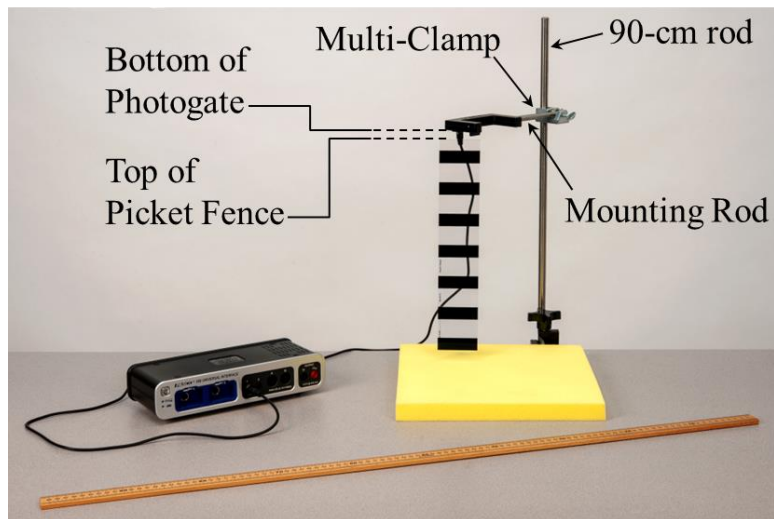

Figure 1: Picket Fence Setup
1. As shown in Figure 1, fasten the Table Clamp and the 90-cm Rod to the edge of the table. The Mounting Rod screws directly into the side of the Photogate. Then use the Multi-Clamp to fasten the Mounting Rod + Photogate to the vertical 90-cm Rod.
2. Position the yellow No-Bounce Pad (see Figure 1) on the table to protect the falling Picket Fence when it reaches the table.